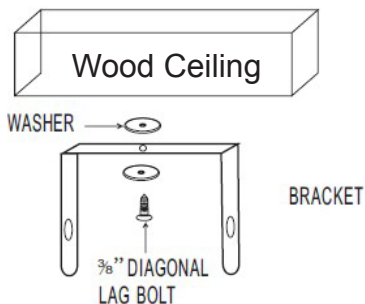

Figure 4a. Single-Screw Mounting
Refer to Figures 4a and 4b.
**NOTE:** If you want to swivel the heater either to the right or left adding a washer to both sides of the bracket is recommended. A longer lag bolt may be required to properly secure the unit. See Figure 4a.
1. To turn the unit when it has been installed with a single lag bolt (as shown in figure 4a), simply turn the entire heater as needed. The unit cannot be turned horizontally if it has been installed with 2 lag bolts.